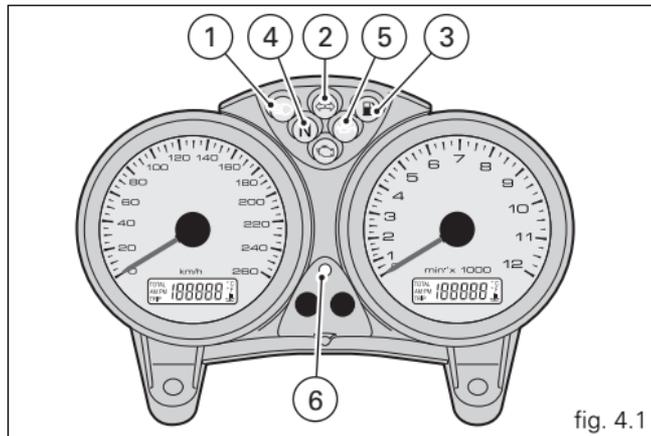
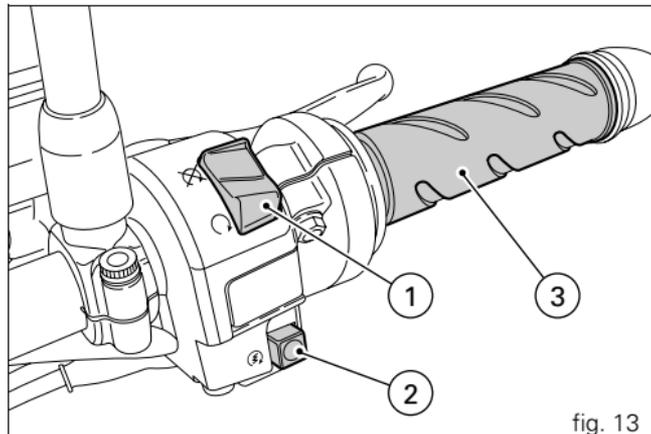

fig. 4.1
fig. 13
Instrument panel (fig. 4.1 and fig. 4.2)
In the event of faults in the immobilizer system, the following procedure makes it possible to disable the “engine lock” function, which is indicated by the yellow-amber EOBD warning light (7, fig. 4.1).
The EOBD warning light (7, fig. 4.1) goes off after the pre-set time of 8 seconds.
- 3) Now enter the electronic release code shown on the CODE CARD given to the customer when the motorcycle was handed over by the dealer. The EOBD warning light will light up and start flashing. Count the number of flashes of the EOBD (7,fig. 4.1) light equal to the first number of the secret code. Turn the throttle twistgrip to the fully open position: The digit entered is acknowledged, and the EOBD warning light comes on and stays on for the pre-set time of 4 seconds. If no operation is performed with the throttle twistgrip, the EOBD light will flash 20 times and then illuminate steadily. In this case, repeat the procedure from step (1).
- 1) if the code is recognised, the warning light (6, fig. 4.1) on the instrument panel will flash briefly. This means that the immobilizer system has recognised the code and disabled the engine lock. When you press the START (2, fig. 13) button, the engine will start up.
- 2) If either the warning light (6, fig. 4.1) or the EOBD light (7, fig. 4.1) remain lit, the code has not been recognized. In this case, it is advisable to turn the ignition key back to OFF and then to ON again. If the engine still does not start, try using another black key. If the engine still does not start, contact the DUCATI Service network.
- 3) If the warning light (6, fig. 4.1) keeps flashing, it means that an error signal from the immobilizer system has been cleared (e.g. with the override procedure using the throttle twistgrip). Turn the key to OFF and back to ON; the immobilizer light should return to its normal state (see step 1).
Right-hand handlebar switch (fig. 13)
Throttle twistgrip (fig. 13)